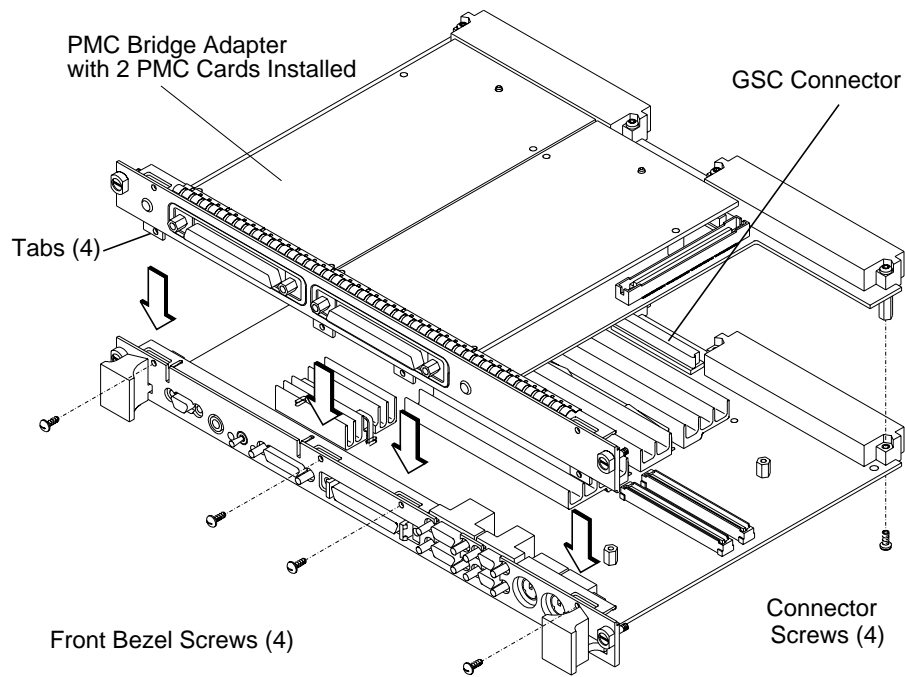
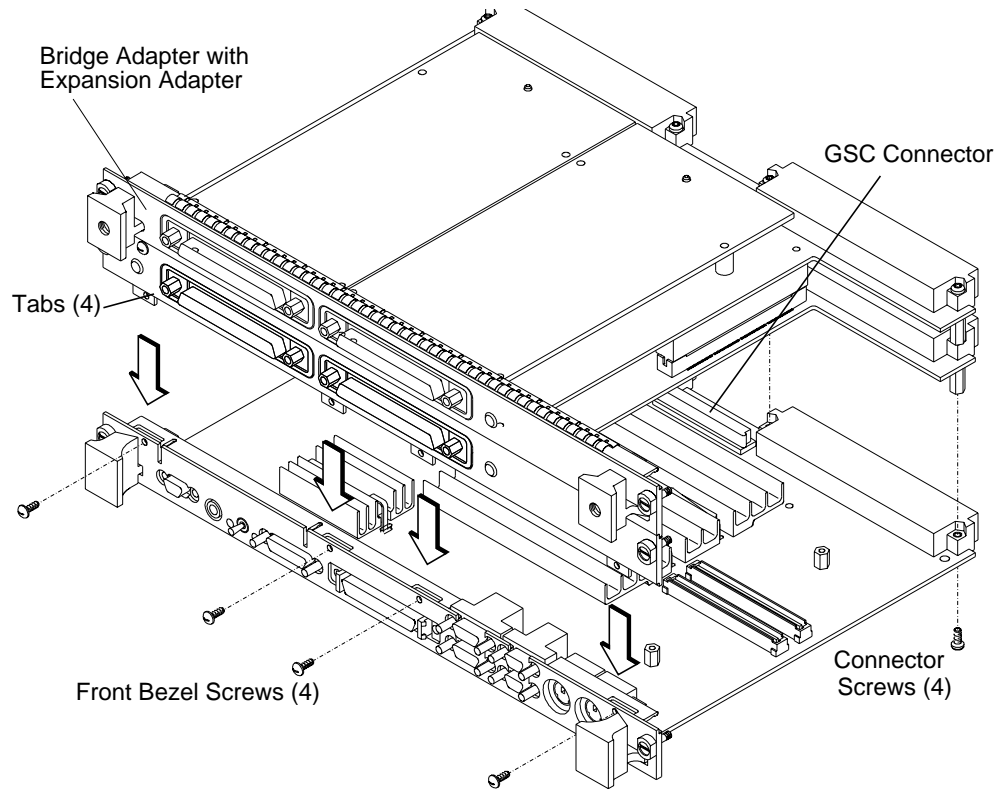

Figure 9
Figure 10 **Installing the Bridge Adapter with the Expansion Adapter onto the Board Computer**
14 The bridge adapter should **NOT** be assembled to the board computer. If it is, remove it by reversing the steps shown in Figure 9.
- 18 Install the PMC bridge adapter (as shown in Figure 9) or the bridge adapter with expansion adapter (as shown in Figure 10) onto the board computer. Align the GSC connector first, then the tabs on the front panel, and push the boards together. There are four screws that secure the front bezel, and four screws that secure the VME connectors.